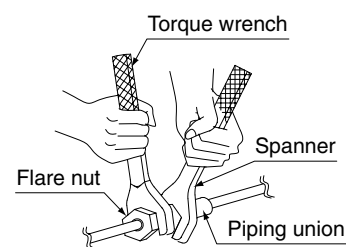

Fig. 4
- (1) Connect the piping.
- When connecting or disconnecting piping to or from the unit, **be sure to use two spanners and two torque wrenches.** (Refer to Fig. 4)